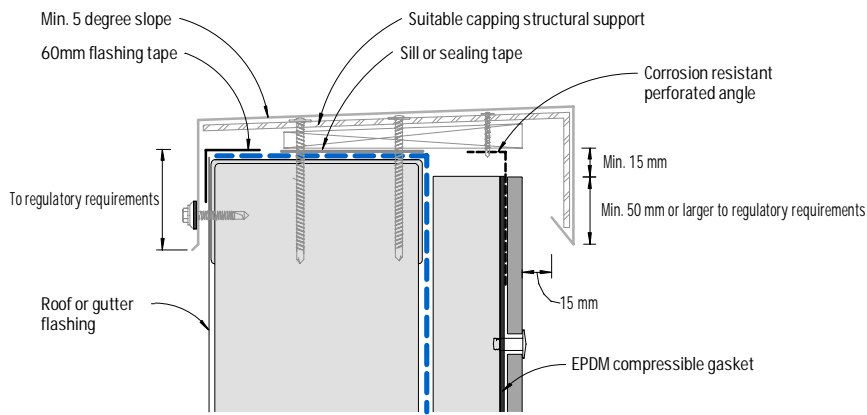

Figure 34: Capping - Detail 1
- 4) Capping shall be designed and engineered accordingly to provide adequate allowance for ventilation as shown in Figures 34 & 35.